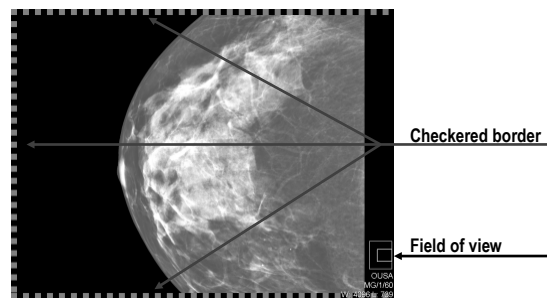

Figure 386 – Only part of the image is visible within the view
- The appearance of a checkered border, which can be activated/deactivated by checking/unchecking the **Indicate that the image is not displayed entire in the view (checkered border)** check box on the **Mammography** tab of the **TomoCon options** dialog (see 4.8 Mammography). If the check box is checked, the part of the image that is not visible within the view is indicated by a checkered border on the corresponding edge of the view (see Figure 386).